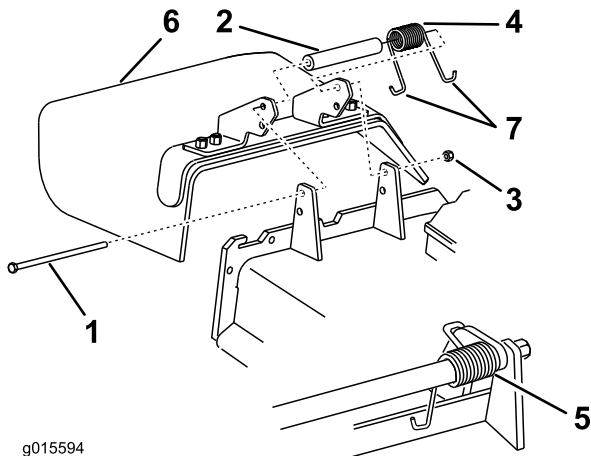

Figure 101
1. Remove the locknut, bolt, spring and spacer holding the deflector to the pivot brackets (Figure 101). Remove damaged or worn grass deflector.
Note: Make sure one J end of spring is installed behind deck edge before installing the bolt as shown in Figure 101.
3. Install bolt and nut. Place one J hook end of spring around grass deflector (Figure 101).